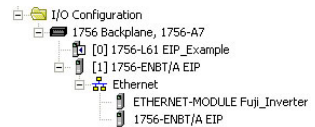

Figure 89: I/O Configuration Tree
- 6) After adding the I/O Module to the configuration, the full I/O Configuration tree should appear similar to Figure 89.